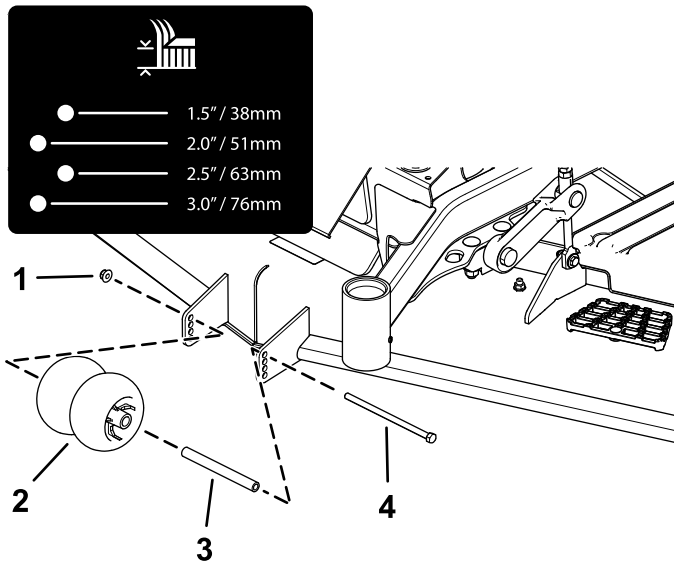
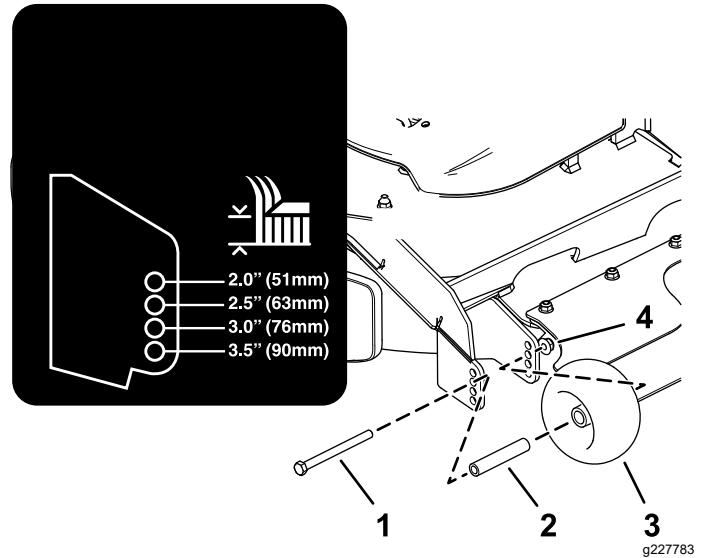

Figure 26
Figure 27
4. Adjust the anti-scalp rollers as shown in Figure 26 and Figure 27.